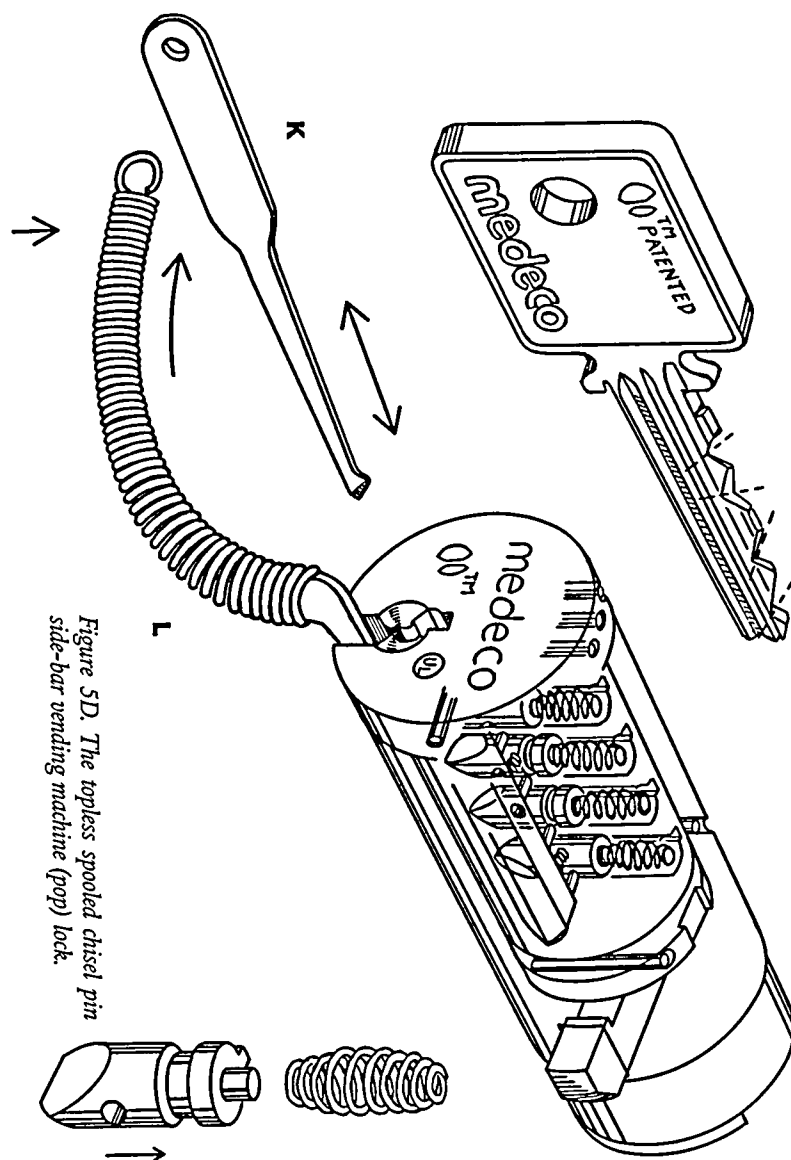

Figure 5D. The topless spooled chisel pin side-bar vending machine (pop) lock.
4. *Secrets of Lock Picking*, Paladin Press, p. 9, figure 5D. Further research on my part has revealed that this tool is no longer available in locksmith's supply chains. Please see Chapter 1 for details in making this tool.